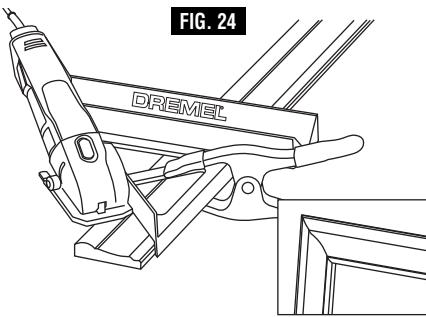

FIG. 24
- 1. 45° Miter Cuts-** use the angled edge of the cutting guide as the fence, (Fig. 24).
Miter Cuts (15°, 22.5° or 30°)- Pivot the cutting guide at the designated corner to the desired angle using the angle indicator marking on the cutting guide, complete the cut using the outside edge of the cutting guide as the fence, (Fig. 24).